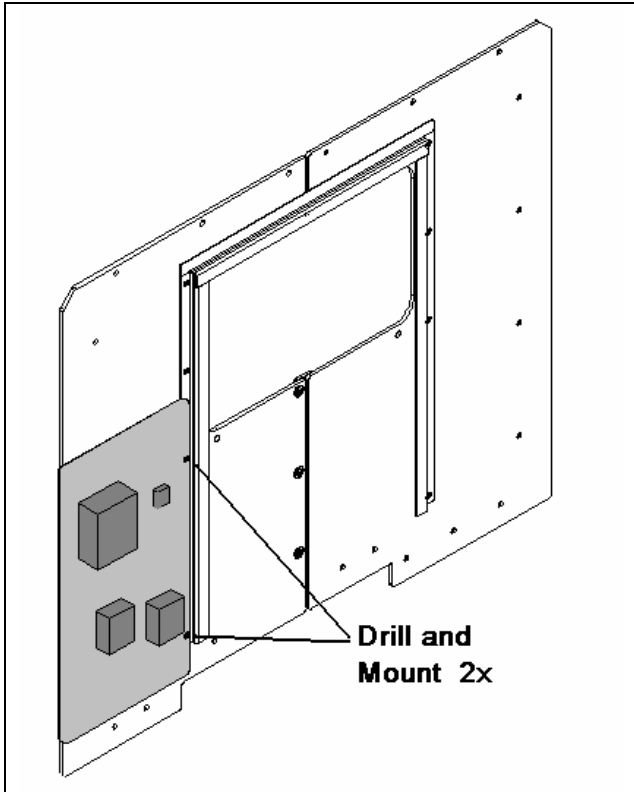

Figure 5-58b. Emergency Exit Kit Installation - ECM mounting (3 of 4).
8. Install the ECM panel as shown in Figure 5-58b. This requires that two holes be match-drilled through the aluminum back panel to the lower right mounting holes in the frame